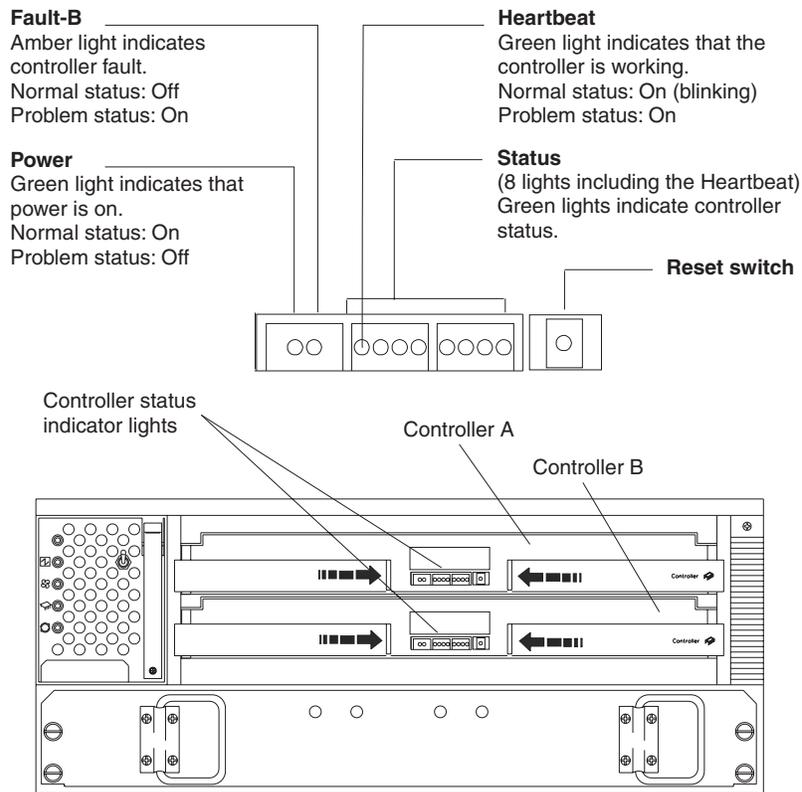
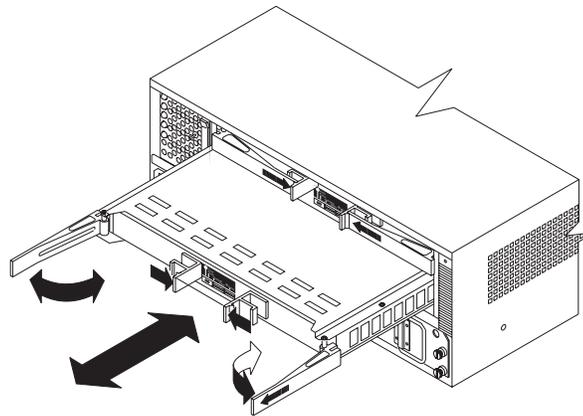

Figure 33. Controller status indicator lights
Figure 34. Removing and replacing a failed controller CRU
Each controller comes in a removable, portable unit, called a controller CRU, as shown in Figure 34 on page 43. Each controller CRU slides into one of two controller slots on the front of the DS4400 Storage Server and attaches to hosts through Fibre Channel connections. Two handles lock the controller in place. Each controller slot has a controller slot designation that identifies the physical location of the controller in the chassis: controller slot A (top) or controller slot B (bottom). Each controller CRU has ten indicator lights: one power, one fault, and eight status indicator lights, as shown in Figure 33 on page 42.
2. Using Figure 34 as a guide, remove the controller that has failed.
4. Using Figure 34 as a guide, install the new controller as follows: